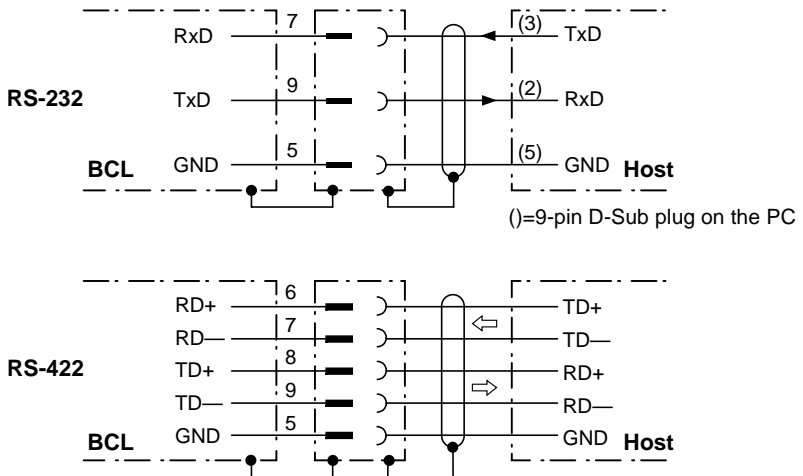

Figure 7.2: Circuitry of the host interface
- Correctly connect the host interface acc. to Figure 7.2.